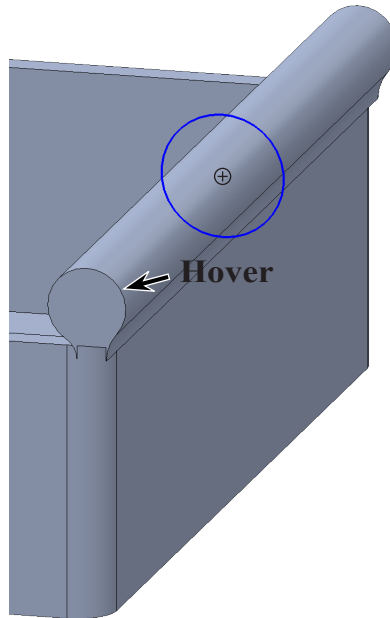

Fig. 14
Step 2. Click **Circle**  (S) on the Sketch toolbar.
Step 3. Sketch **circle at centerpoint of hinge Extrude**, **Fig. 14**. To wake up centerpoint, hover cursor over circular edge.